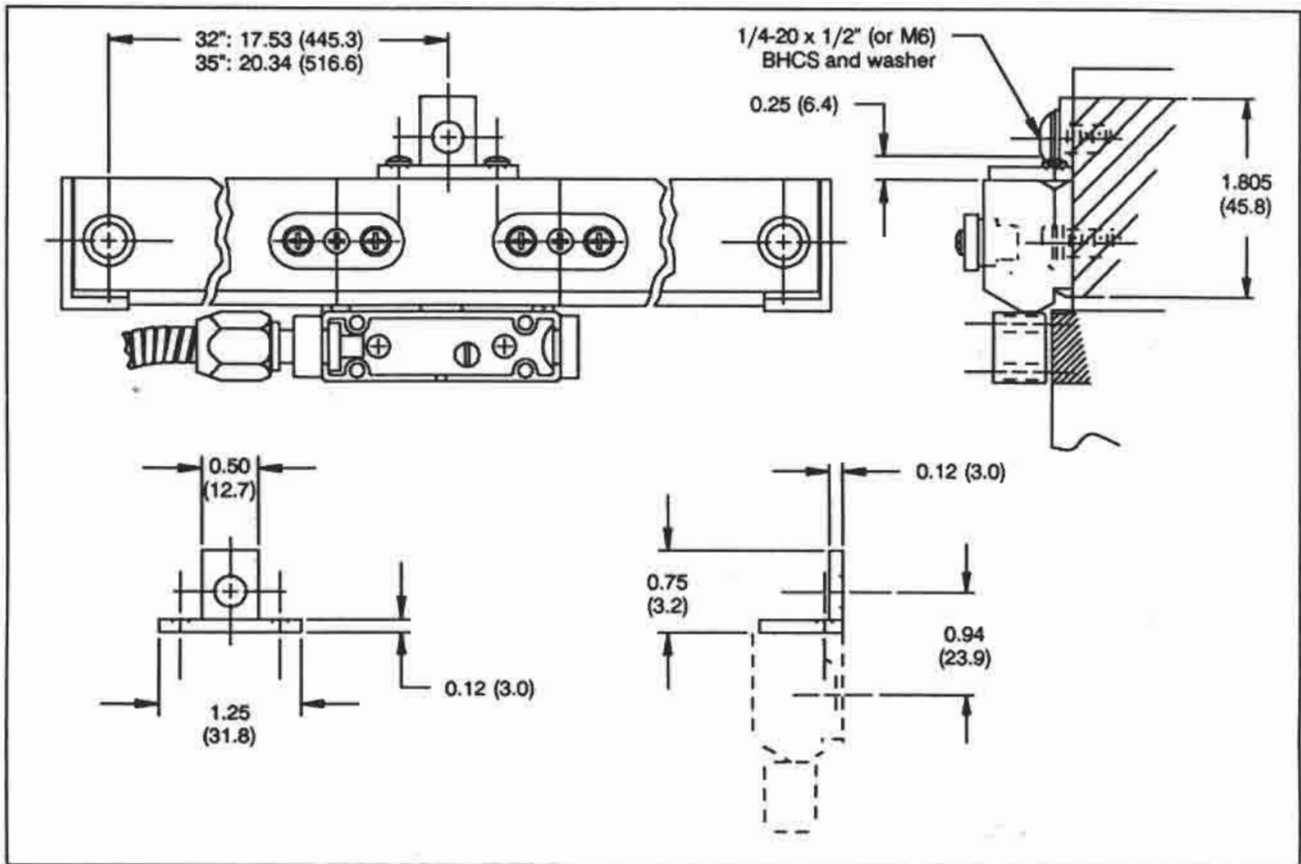

Figure 2-12. 32" and 35" Mini-Scale or Mate System encoder mounting information
- These encoders are intended for use with specific-application mounting kits. With these applications, they are mounted onto a machined surface using the end mounting holes and the factory-installed center support (Figure 2-12). For general applications this same mounting method may be used.
For 32" and 35" encoder center supports, refer to Figure 2-12. Mount the encoder using both end mounting holes. Transfer punch the single center support mounting hole. Remove the encoder and drill and tap for 1/4-20 x 3/8" deep minimum. Re-install the encoder.